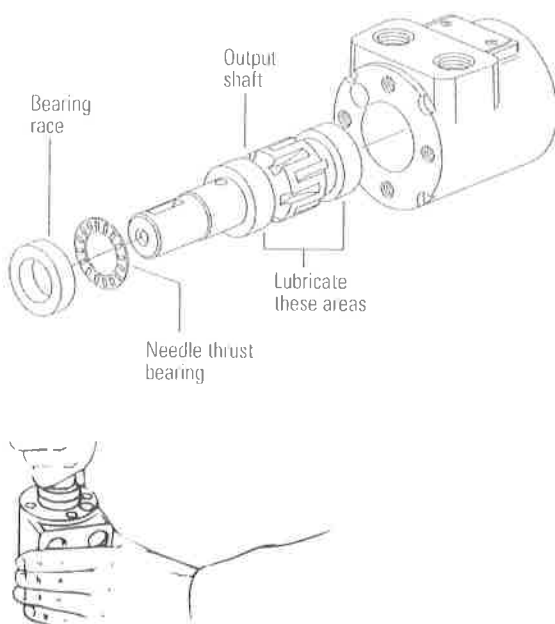

Figure 11
19. Lubricate output shaft with hydraulic oil, then install shaft in housing (see Figure 11).
20. 20 Install needle thrust bearing, then bearing race on shaft. Pull shaft partially out of housing. Push all three parts in housing together (see Figure 11). The bearing race must rotate freely when in position.